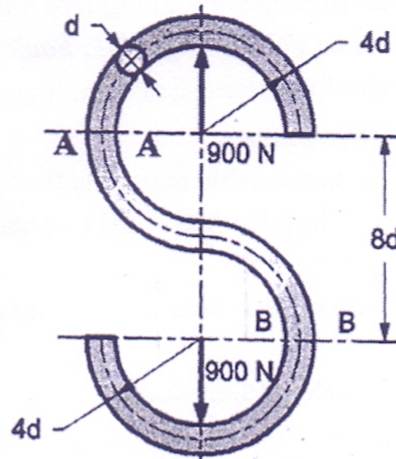

Figure 2
Q.3 a) An open 'S' link made of plain carbon steel 55C8 ( $S_{yt} = 399 \text{ N/mm}^2$ ) is shown in figure 2. Calculate the dimensions of the link, if the factor of safety is 6. (7)